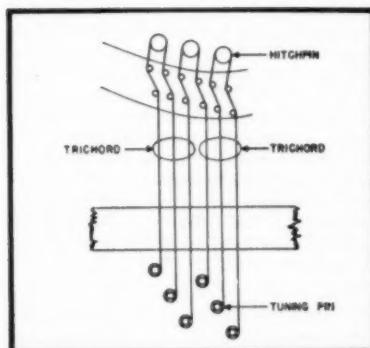

Fig. 3. Showing how one length of wire serves for two springs.
Steady-state measurements tell only part of the story, and in many cases the transient response characteristics will be more important in determining what the reproduced bass sounds like. Figure 3 shows a series of scope photos illustrating the effects of various types of bass circuits on transient pulses. In the case of the synthetic resonant circuit, nearly pure bass fundamentals are generated from the transient pulses not only at the main resonance frequency, but for an appreciable range on either side.
Fig. 3. Oscilloscope photos showing pulse series with repetition rate of 100 cps. (A) shows initial pulse shape; (B) shows output of R-C bass-boost network such as that of (A) in Fig. 2; (C) illustrates output from feedback type of boost circuit; and (D) is 'scope trace of output of the three-element bass-boost circuit.
This is illustrated in *Fig. 3*. It would appear that tuning one segment of the string would alter the tuning of the other segment; i.e., that the wire would slide around the hitch pin. Such is not the case, however.